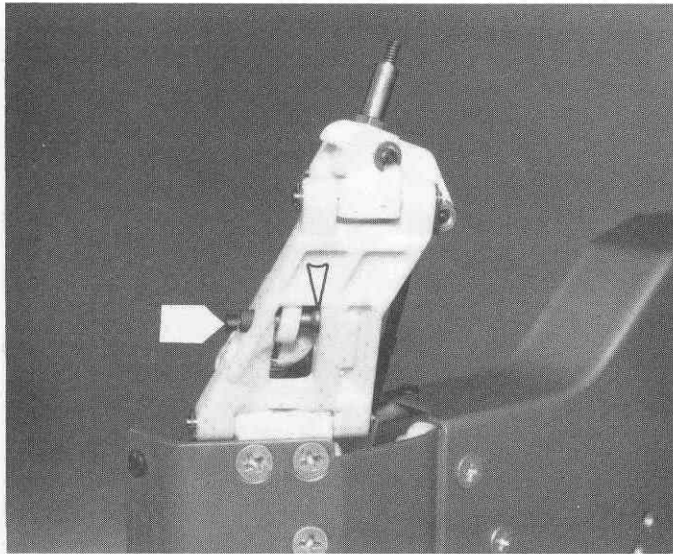

Fig. 131
□ **Fig. 131** The flat side of the ball should be towards the rear as the upper arrow shows. Now, back in Bag #6-1 you have 2 3/4" long screws that only have 1/4" of threads. Use these screws to mount the lower shock balls to the "A" arm, as shown.